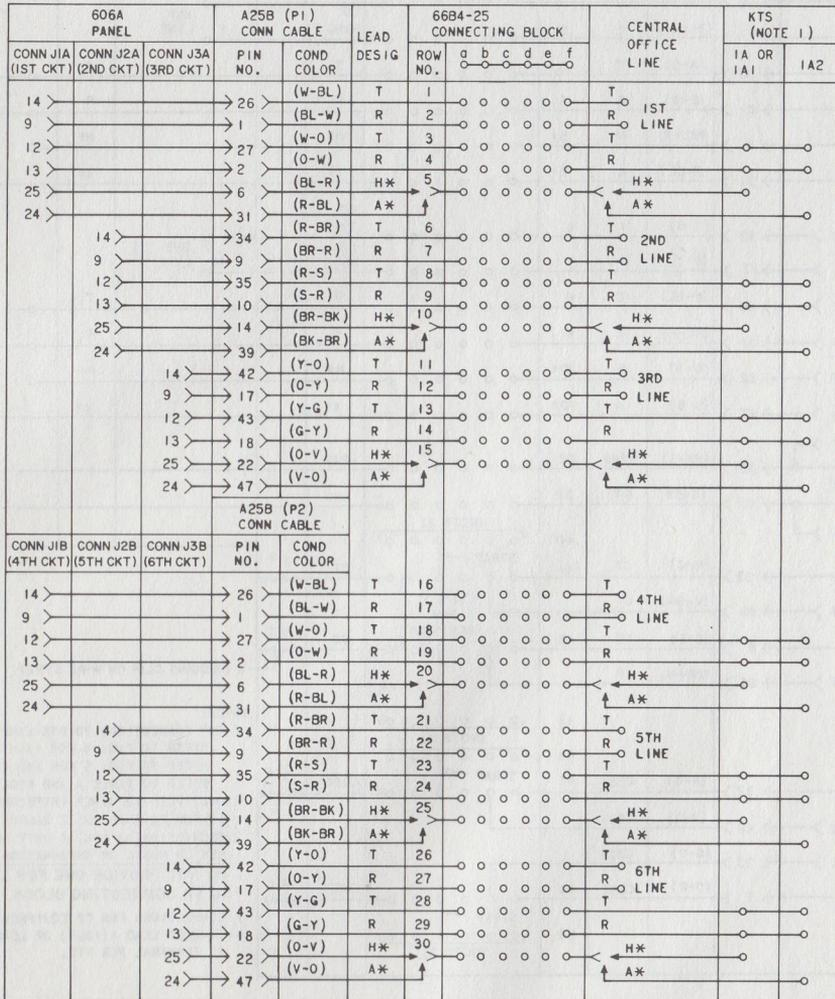

Fig. 7—Connections for Voice Connecting Arrangement LVH Using 606A Panel (Sheet 1)
**6.04** For connection information when using the 606A panel, refer to Fig. 7, 8, and Table A.